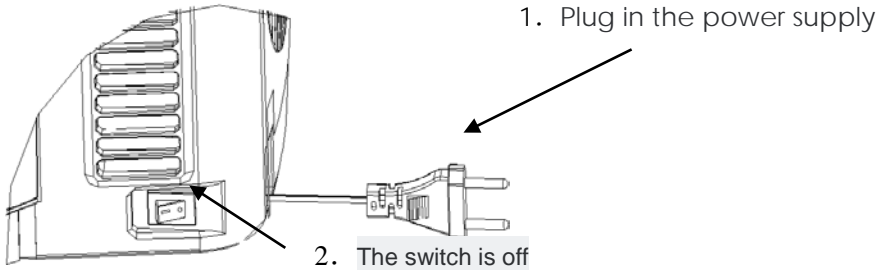

Figure 13
3. Turn on the beertender by putting the switch into "1" position. (Power off at "0" position) (Figure 13)